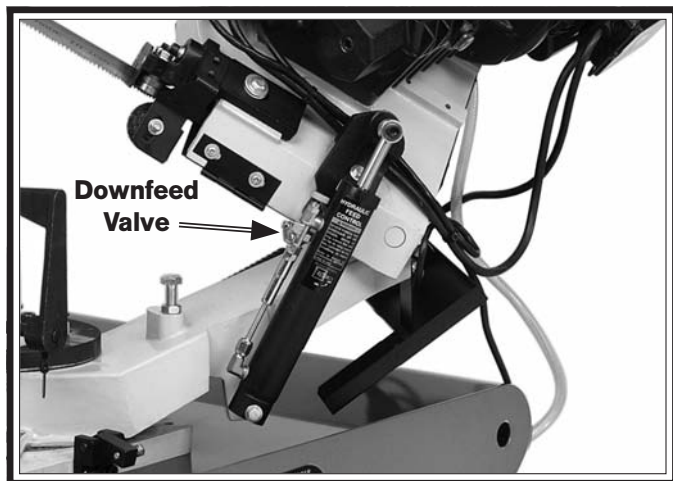

Figure 13. Downfeed valve.
3. Open the downfeed valve (**Figure 13**) and allow the headstock to travel all the way down. If the blade contacts the machine base, adjust the downfeed stop bolt.